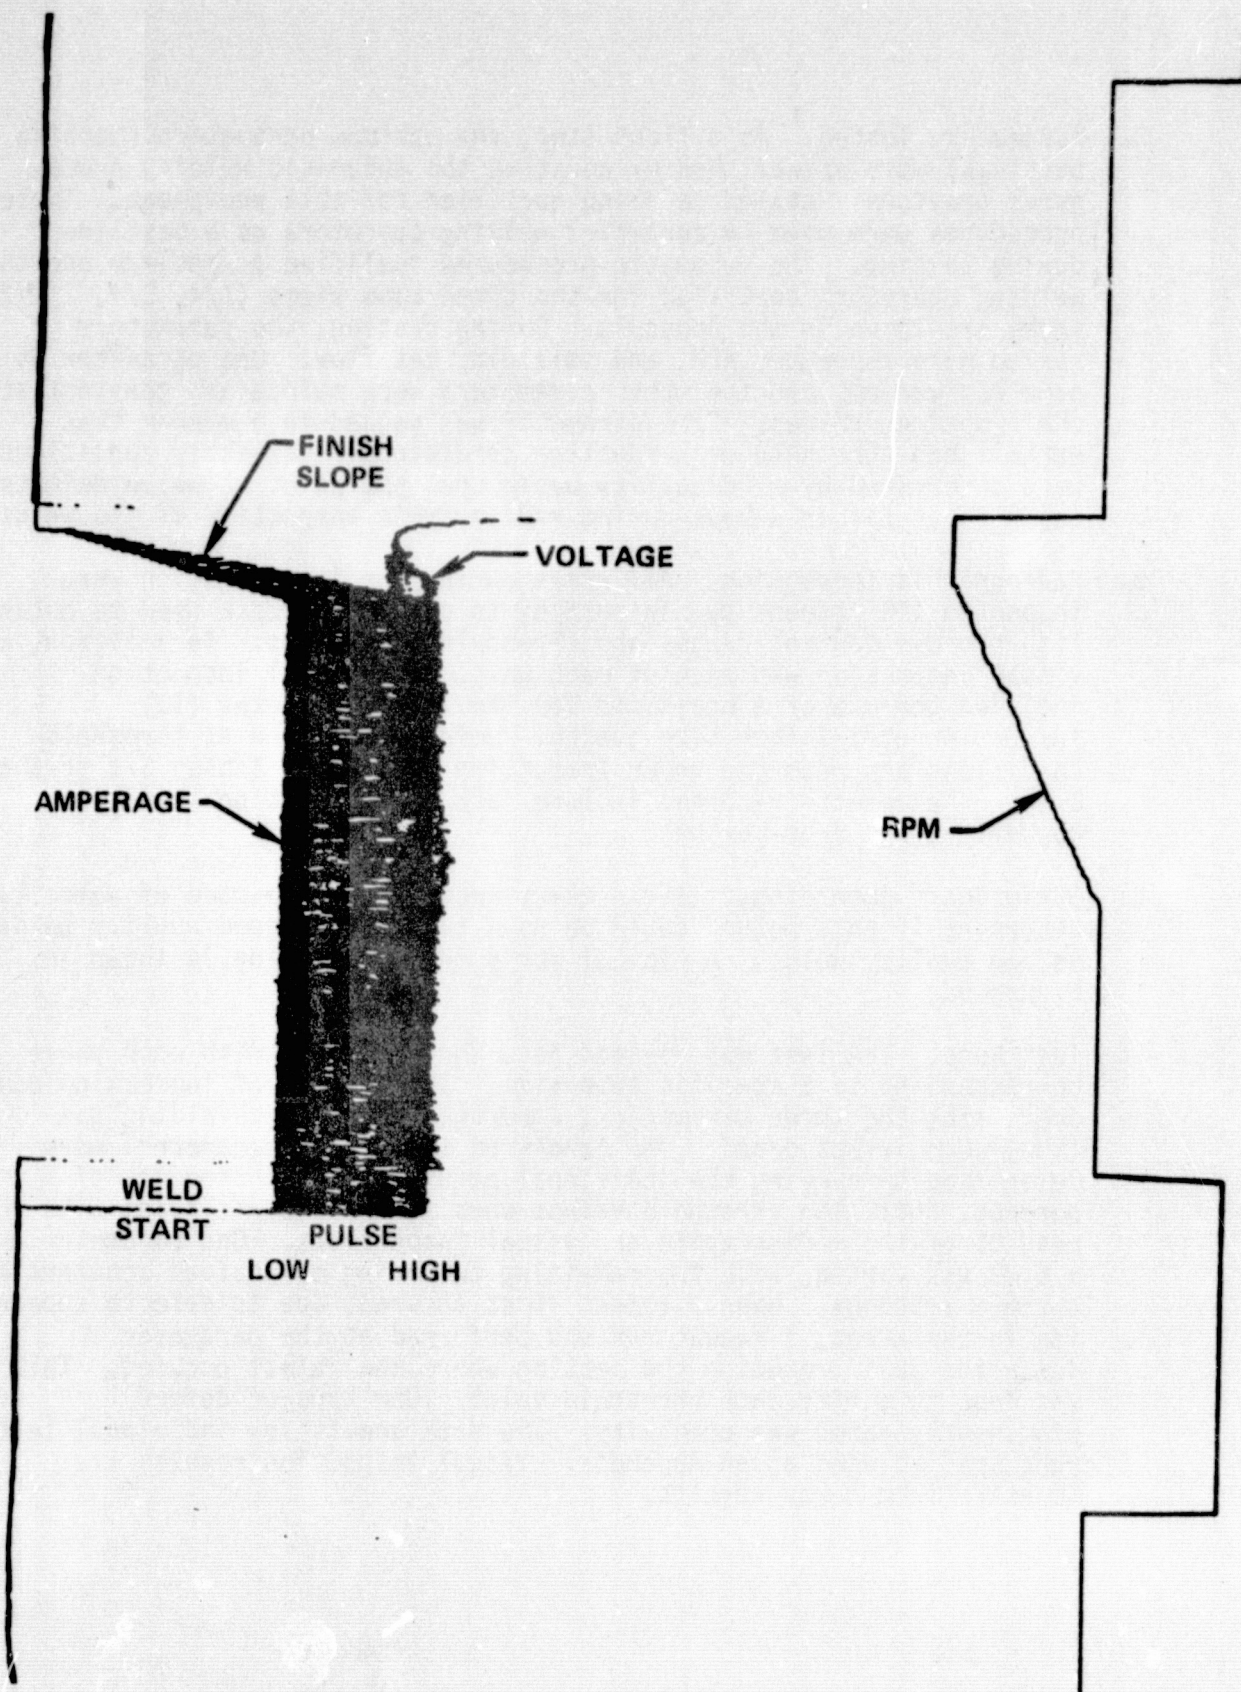

Figure 6. Typical Strip Chart Recording
3. **Radiographic Inspection.** All welds during the investigation were inspected 100 percent by radiography to obtain the data used to establish process control ranges and threshold conditions. In addition, a visual inspection was made of each weld. The visual inspection included the use of a borescope for the inside diameter (ID) inspection of 1/4 inch size tubing. Defects observed at threshold conditions are recorded under Inspection Results in Tables 3.1 through 3.18. The defects recorded include lack of penetration (LOP), concavity, and drop-through.
4. **Strip Chart Recordings.** Strip chart recordings were made of welds to determine if this method could be used to identify good quality welds vs bad quality welds. A typical strip chart recording is shown in Figure 6.